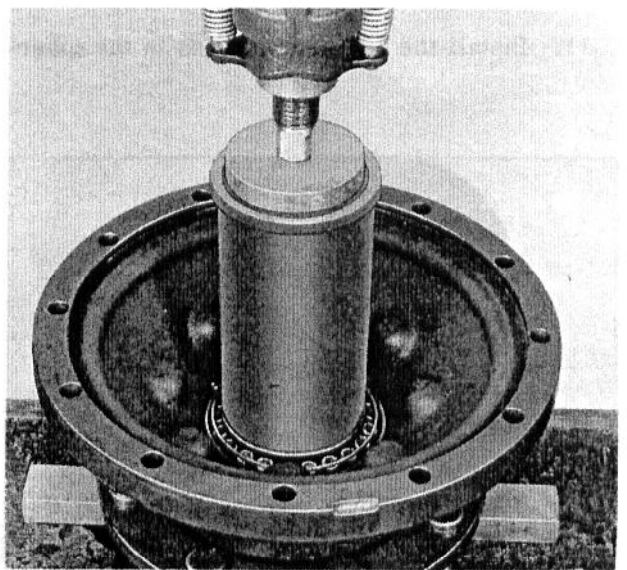

Fig. 100 - Wheel Axle Bearing Cone Installation
5. Press the wheel axle bearing cone onto the axle shaft far enough to install the split ring. Refer to Fig. 100. Install the split ring.